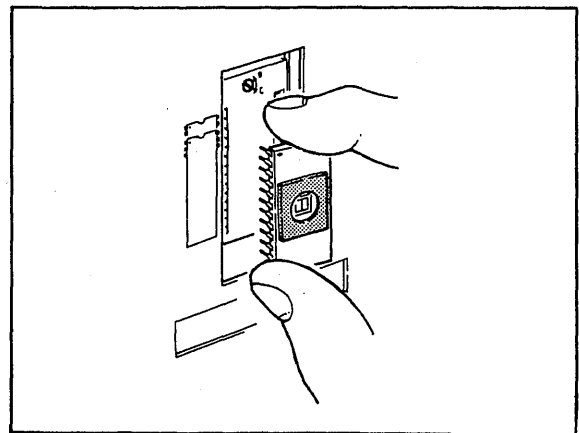

Figure 6-3-8. Removing ROM.
- d) Hold the ROM in the fingers and pull it out of the socket, taking care not to deform the pins. (Figure 6-3-8.)